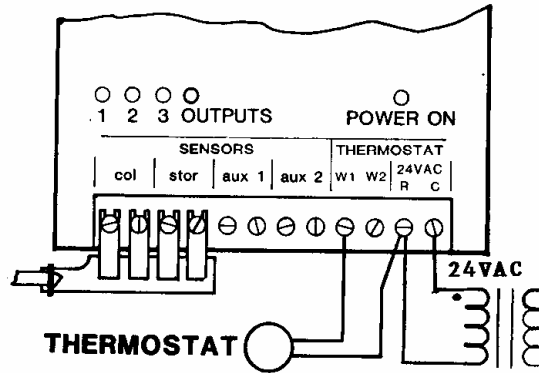

FIGURE 8
**QC-1 SETUP:** Connect QC1 per fig. 8
-2F (H)
QC-1 SETUP:      Connect QC1 per fig. 8